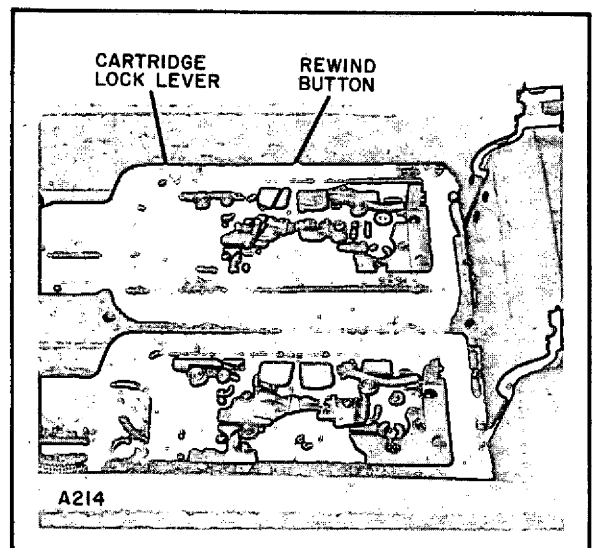

Fig. 2-3. Controls on the Tape Drive
- c. On each tape drive, there is a manual rewind switch located between the supply and take-up reels. There is also a cartridge lock lever, which is used to lock the tape cartridge in place. The location of these controls is shown in figure 2-3.